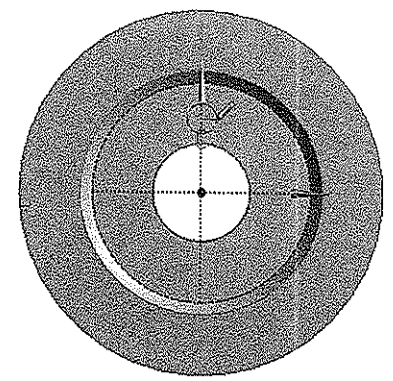

Figure 4-25 The circle created on the face of the model
- 8. Next, move the cursor away from the center of the circle and then click at a random point to create a circle, as shown in Figure 4-25.